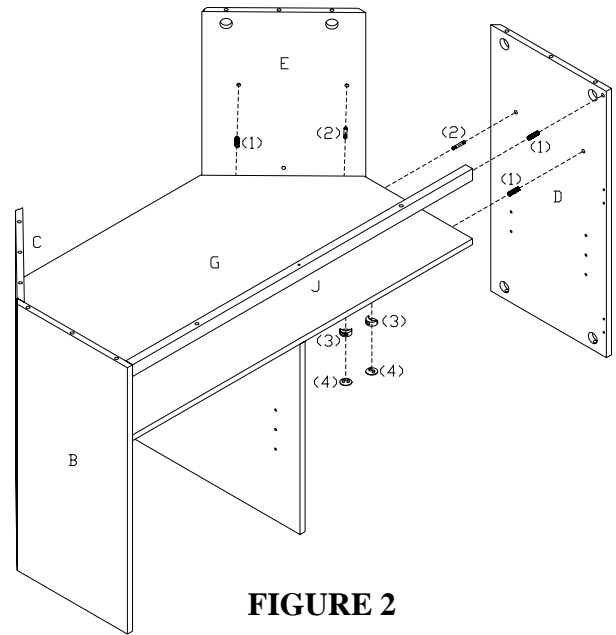

FIGURE 2
4. INSERT WOOD DOWELS (1), CAM-BOLTS (2) INTO PREDRILLED HOLES ON RIGHT SIDE PANEL (D) AND FIT INTO CORRESPONDING HOLES ON ENDS OF FIXED SHELF (G), CROSS BRACE (J). INSERT CAM-LOCKS (3) INTO LARGE HOLES ON UNDERSIDE OF FIXED SHELF (G) WITH ARROW FACING TOWARDS HOLE. ROTATE CAM-LOCKS (3) CLOCKWISE TO SECURE CAM-BOLTS (2) BY USING WRENCH (5). PUSH COVERS (4) INTO CAM-LOCKS (3). ASSEMBLE PARTS (B, C, E) IN SAME MANNER. AS SHOWN IN FIGURE 2.